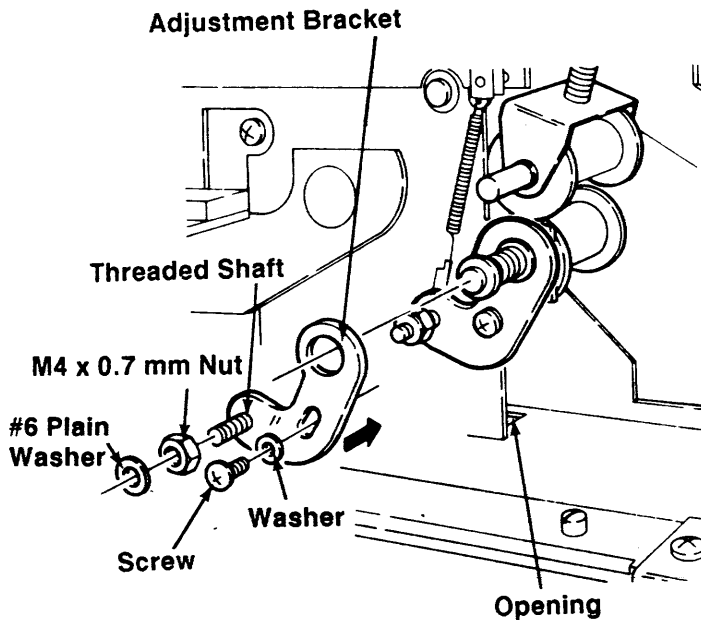

Figure 2-3.2C
9. Install the Adjustment Bracket (Item 19) for the Blip Sensor Housing Assembly using the Screw and Washer removed in Step 8 (Figure 2-3.2C).
- Route the Blip Lamp Harness and the A Row and B Row Blip Sensor Wiring Harnesses from the Blip Sensor Housing Assembly (Item 7) to the left through the opening in the Base out of the way of the film path (Figure 2-3.2C).
20. Place the M-654 on its rear and pull the A Row and B Row Harnesses and Lamp Harness of the Blip Sensor and Housing Assembly through the opening in the Base (Figure 2-3.2C).